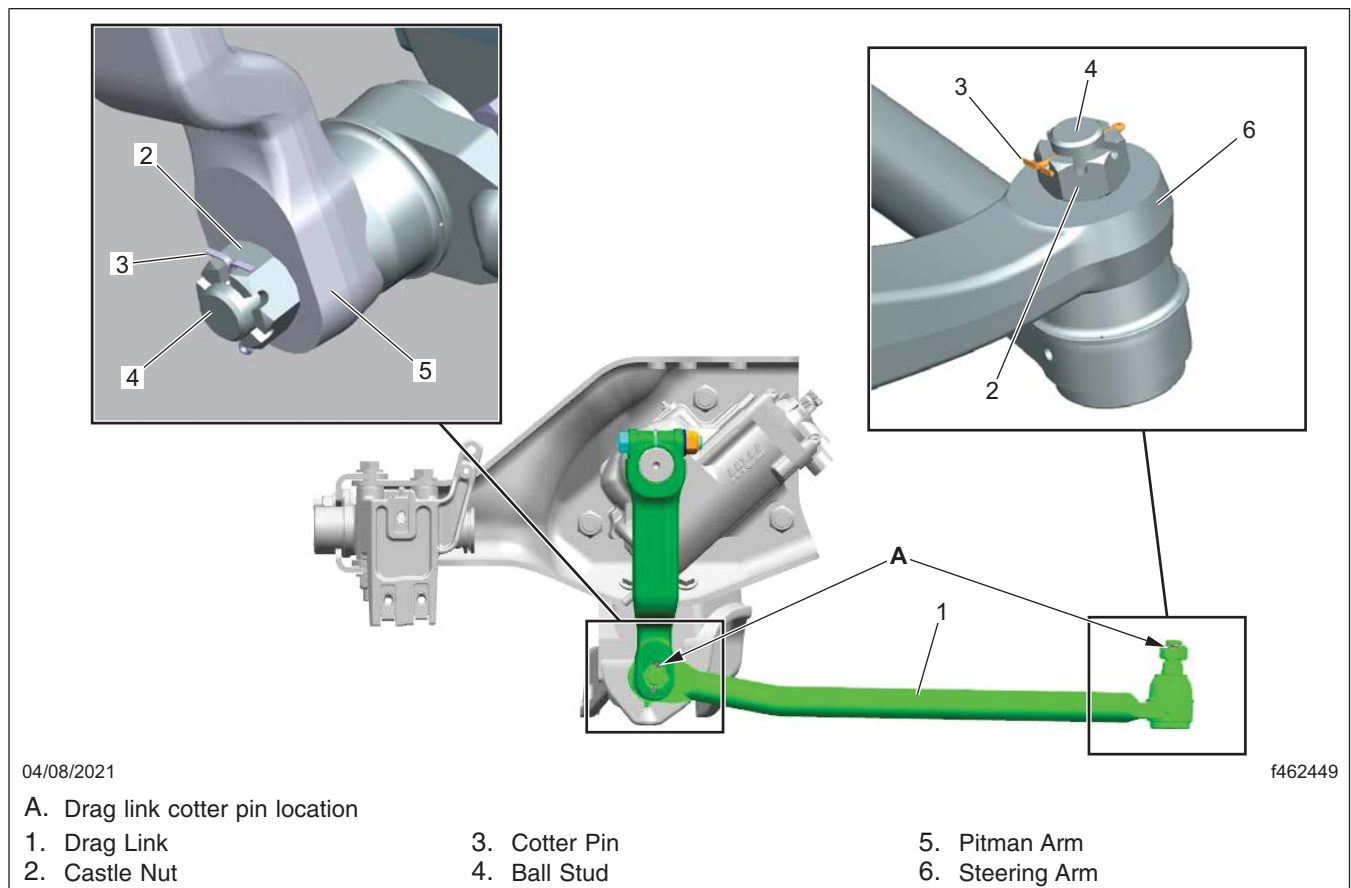

Fig. 1, Drag Link Cotter Pin Location
3. Locate and inspect the cotter pin installation at both ends of the drag link. See Fig. 1.
Is the cotter pin present and ends bent? See Fig. 1.
5. On the drag link end with removed/missing cotter pin, tighten the castle nut 195 lbf-ft (265 N-m). Install a new cotter pin on the ball stud and nut. See Fig. 1.